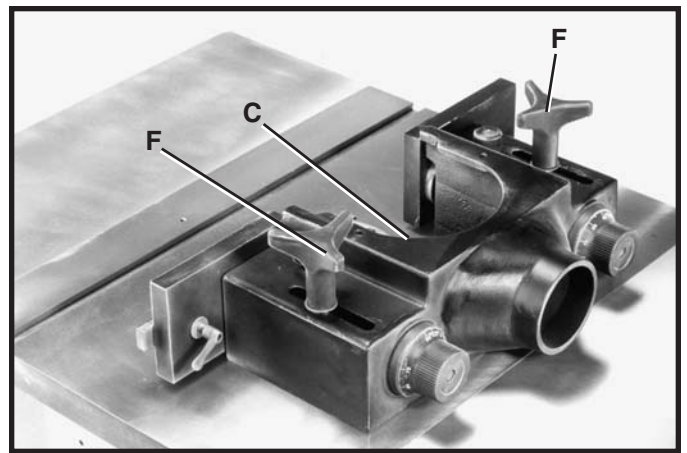

Fig. 19
5. Fig. 19, illustrates fence body (C) fastened to the table with the two fence locking handles (F).